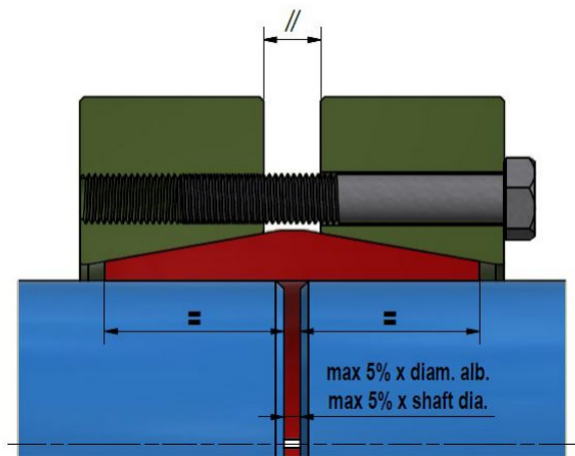
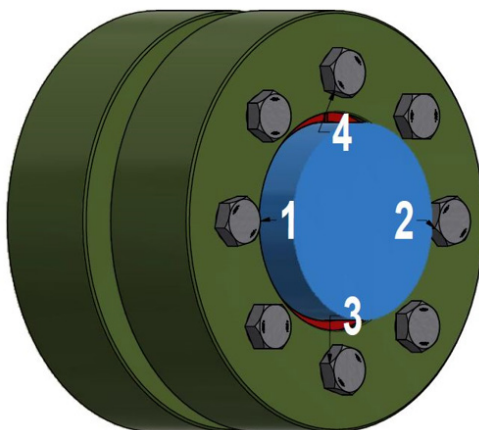

Fig. 2 Positioning of Rigid Coupling
Fig. 3
2. Move the Coupling onto the shafts, making sure that they are aligned. **Shaft engagement shall be equal for both ends; distance between shaft ends shall not exceed 5% of shaft diameter (fig. 2).** Hand-tighten three or four evenly spaced screws (fig. 3) and make sure that **outer rings are parallel**; then hand-tighten remaining screws. At the end of this stage, a light connection is achieved.